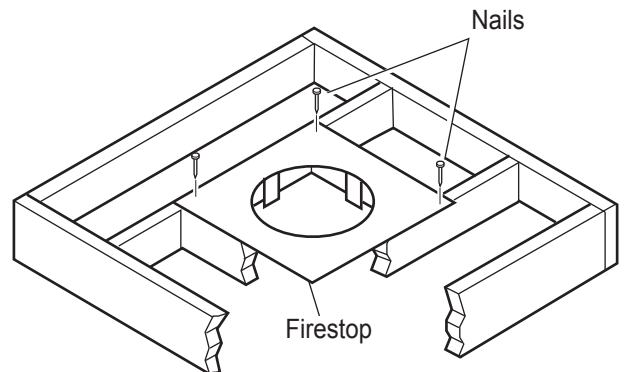
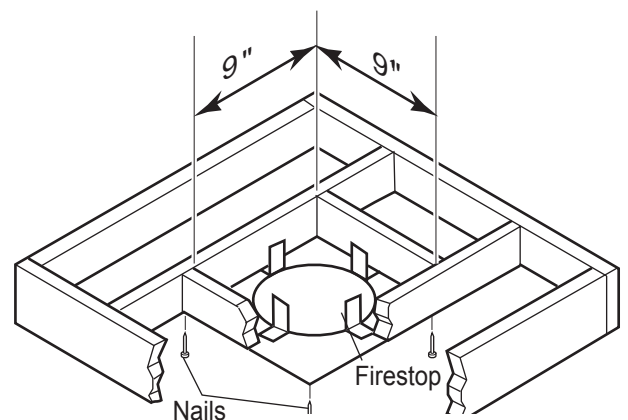

Figure 28- If area above is a room, install firestop above framed hole as shown
Figure 29 - If area above is not a room, install firestop below framed hole as shown
1. Cut a 9" (229mm) square hole in the ceiling using the locating hole as a center point. The opening should be framed to 9" (229mm x 229mm) inside dimensions as shown in Figure 12, page 17 using framing lumber the same size as the ceiling joist. If the area above the ceiling is an insulated ceiling or a room, nail firestop from the top side. This prevents loose insulation from falling into the required clearance space. See Figure 28. Otherwise, install firestop below the framed hole. The firestop should be installed with no less than three nails per side. See Figure 29.